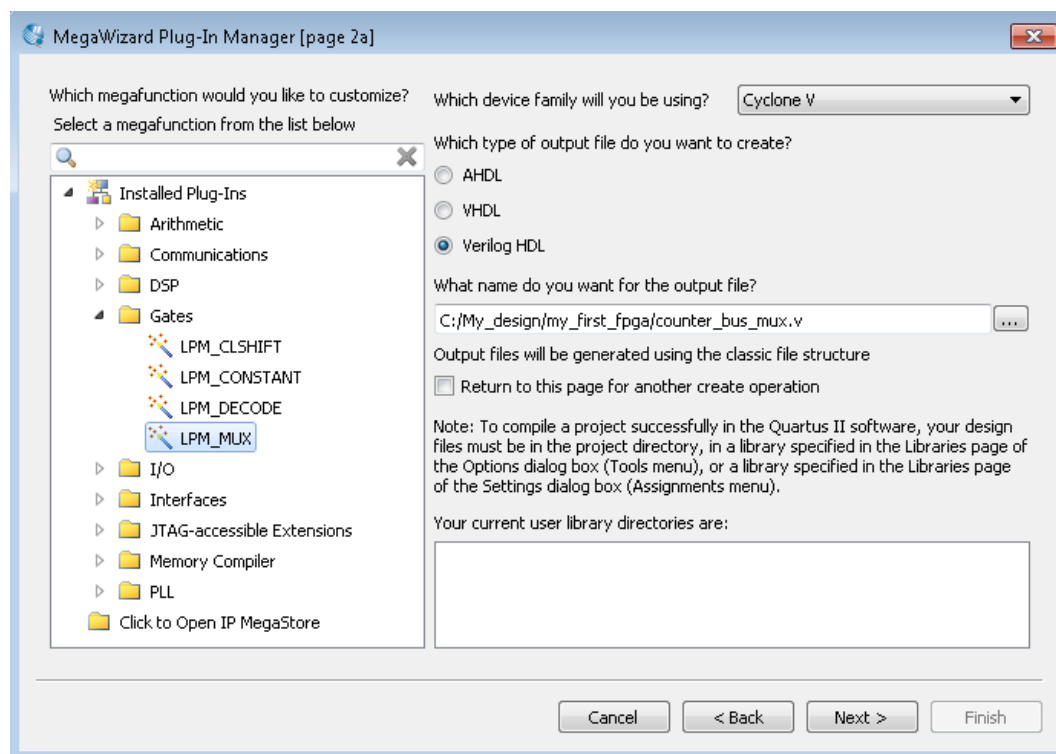

Figure 3-22 Selecting `lpm_mux`
5. Choose the device family that corresponds to the device on the development board you are using, choose Verilog HDL as the output file type, and name the output file `counter_bus_mux.v` (see Figure 3-22).